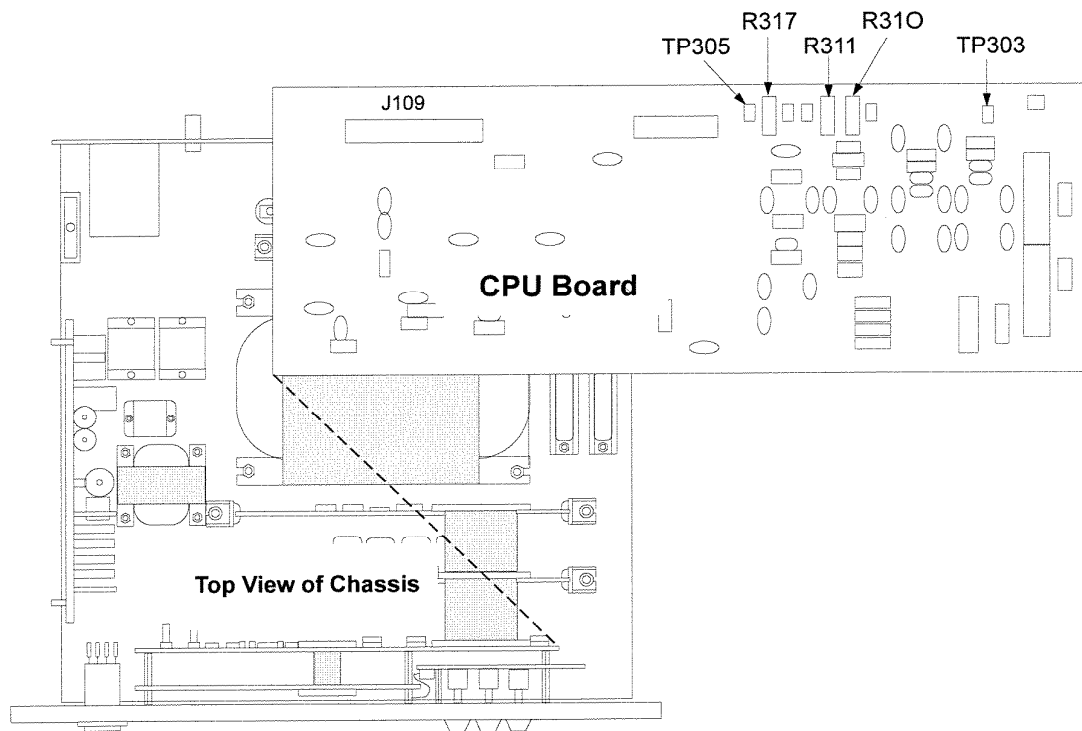

Figure 4-3. CPU Board Calibration Components
8. Connect a voltmeter between TP305 and TP303 (ground) on the CPU board to check the voltage reference. If necessary, adjust R317 to obtain a DVM reading of -3.06V (Figure 4-3).
16. To check the gain of the amplifier, adjust the variable current source for an output of 30 mA. Press the **CURR 5** key. Adjust R310 on the CPU board (Figure 4-3) so the front panel display reads 3.0×10^{-2} .